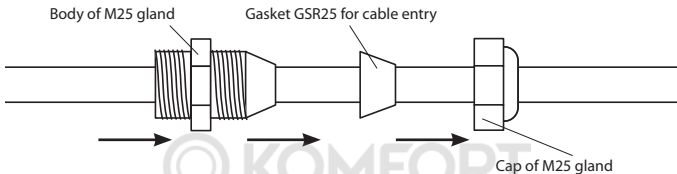

Figure 1
5.1.1. Put onto the end of heating tape, consequently, the cap of M25 gland, sealing gasket GSR 25 for cable entry, and the body of M25 gland (see Figure 1) (the M25 gland, being a part of connection box, is not included in the kit's scope of supply).